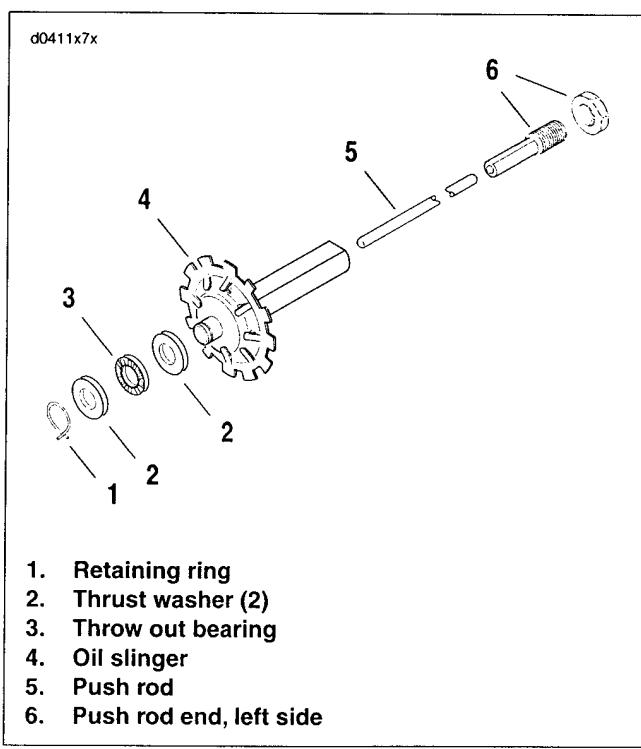

Figure 7-23. Push Rod Assembly
8. See Figure 7-23. Remove retaining ring (1) to free thrust washers (2), push rod bearing (3) and oil slinger (4) from mainshaft.